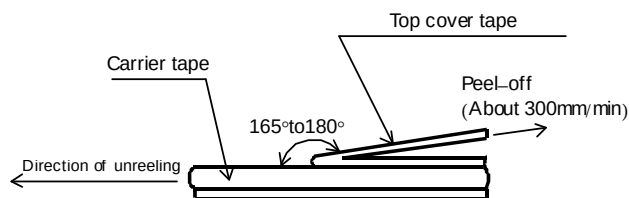
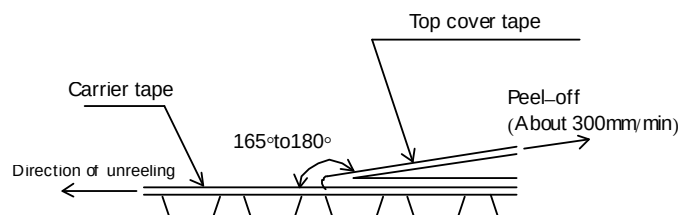

Figure-6
Figure-7
- 5). The peel strength of the top cover tape shall be with in 0.1N to 0.5N on the test method as shown in the following RMC10, 16, 20, 32: Figure-6, RMC35,50,63: Figure-7.